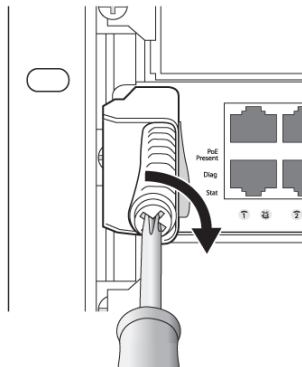

Figure 35. Locking the module into place
- Using a #2 Phillips screwdriver, turn the screw on each injector/ejector handle clockwise and *completely* down to lock the module into place (**Figure 35**). When the screw is fully tightened, the yellow band around the captive screw is completely hidden.